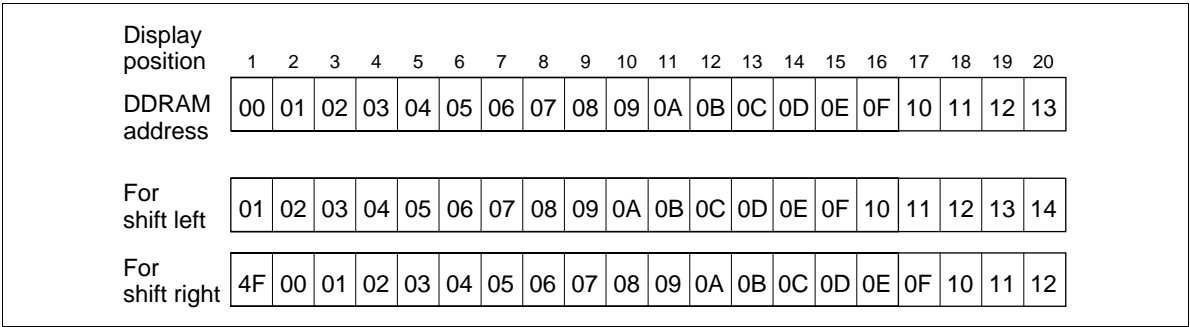

Figure 3 1-Line by 20-Character Display Example
- When there are fewer than 80 display characters, the display begins at the head position. For example, if using only the HD66702, 20 characters are displayed. See Figure 3.
- When the display shift operation is performed, the DDRAM address shifts. See Figure 3.